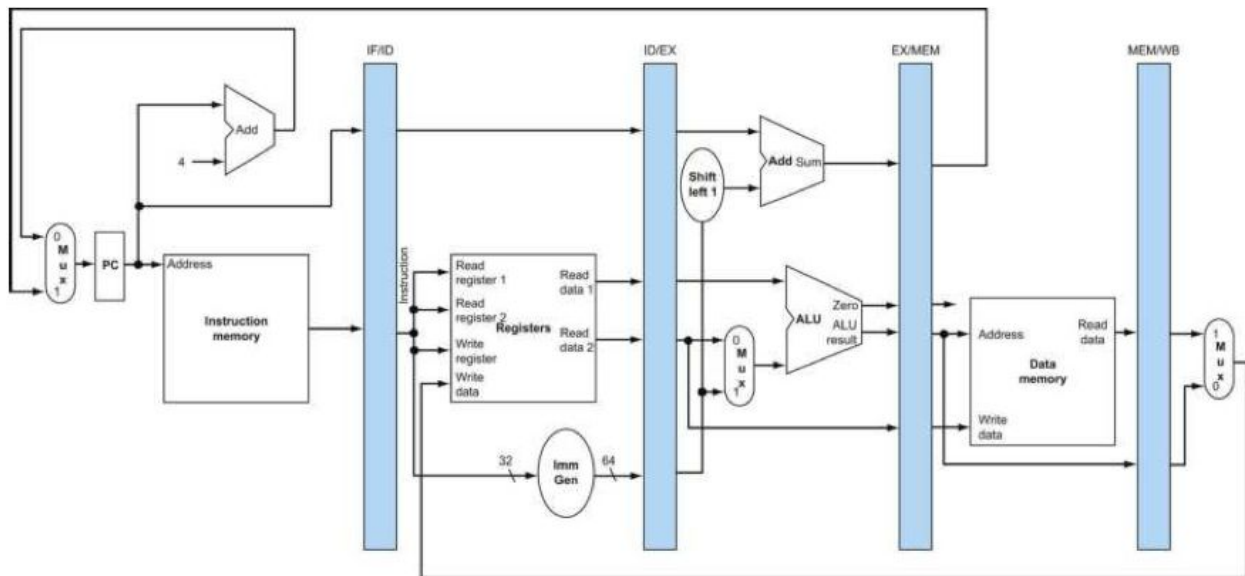

Figure 1: 5-stage Pipeline without forwarding
- 5) Consider the 5-stage pipeline design we discussed in the lecture, shown in Figure 1, **without forwarding** paths. Insert the minimum number of required NOPs into the instruction stream **without re-ordering** instructions to avoid all hazards. Calculate the average CPI of this code, assuming a CPI of one for all instructions. Assume that registers from the register file can be written and read in the same cycle. **(4 Points)**
- 6) Consider the 5-stage pipeline design we discussed in the lecture, shown in Figure 1, **without forwarding paths**. Optimize execution time by **re-ordering** instructions and then insert the minimum number of required NOPs into the instruction stream. The re-ordering must be correct, i.e. not change the output result of the code when applying transformations. Calculate the average CPI of this code, assuming a CPI of one for all instructions. Assume that registers from the register file can be written and read in the same cycle. **(4 Points)**